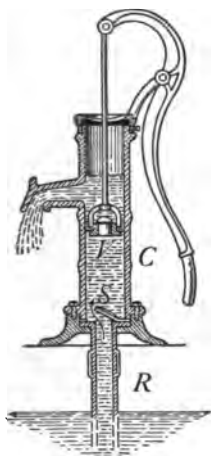

FIG. 42.—The common lift pump.
62. Water Pumps.—The Common Lift Pump. This, the simplest pump for raising water, consists of a cylinder *C* (Fig. 42) connected by a pipe *R* to a supply of water as a cistern or well. A valve opening upward is placed at the bottom of the cylinder over the entrance to the pipe. In the cylinder is a tightly fitting piston connected by a rod to a lever for ease in action. The piston contains a valve opening upward. In operating this pump water is usually first poured into the cylinder to “prime” it. This helps to close the valves and prevents air leaking past them. When the piston is lowered the lower valve closes, the air in the cylinder being compressed pushes the